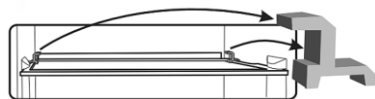

Fig. 5
9. Remove all red elements from shelves (Fig. 5); they are needed for transportation purposes only.